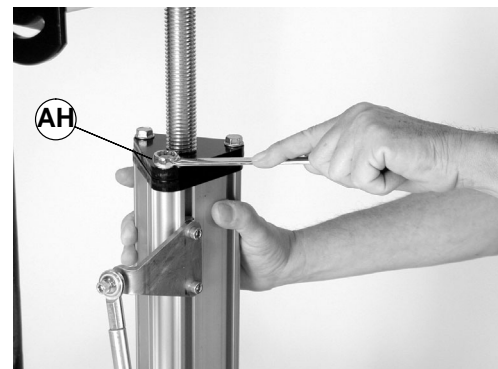

Figure 20
5. Loosen the three tri-lobe hex head screws (AH of Figure 20).
<p>WARNING</p> <p>Failure to secure screws (AH) of Figure 20) may cause conveyor sections to drop down, causing severe injury.</p> <p>TIGHTEN ALL SCREWS (AH) AFTER ADJUSTMENT.</p>
7. Re-tighten tri-lobe hex head screws (AH of Figure 20) to 100 in-lb (11 N-m).